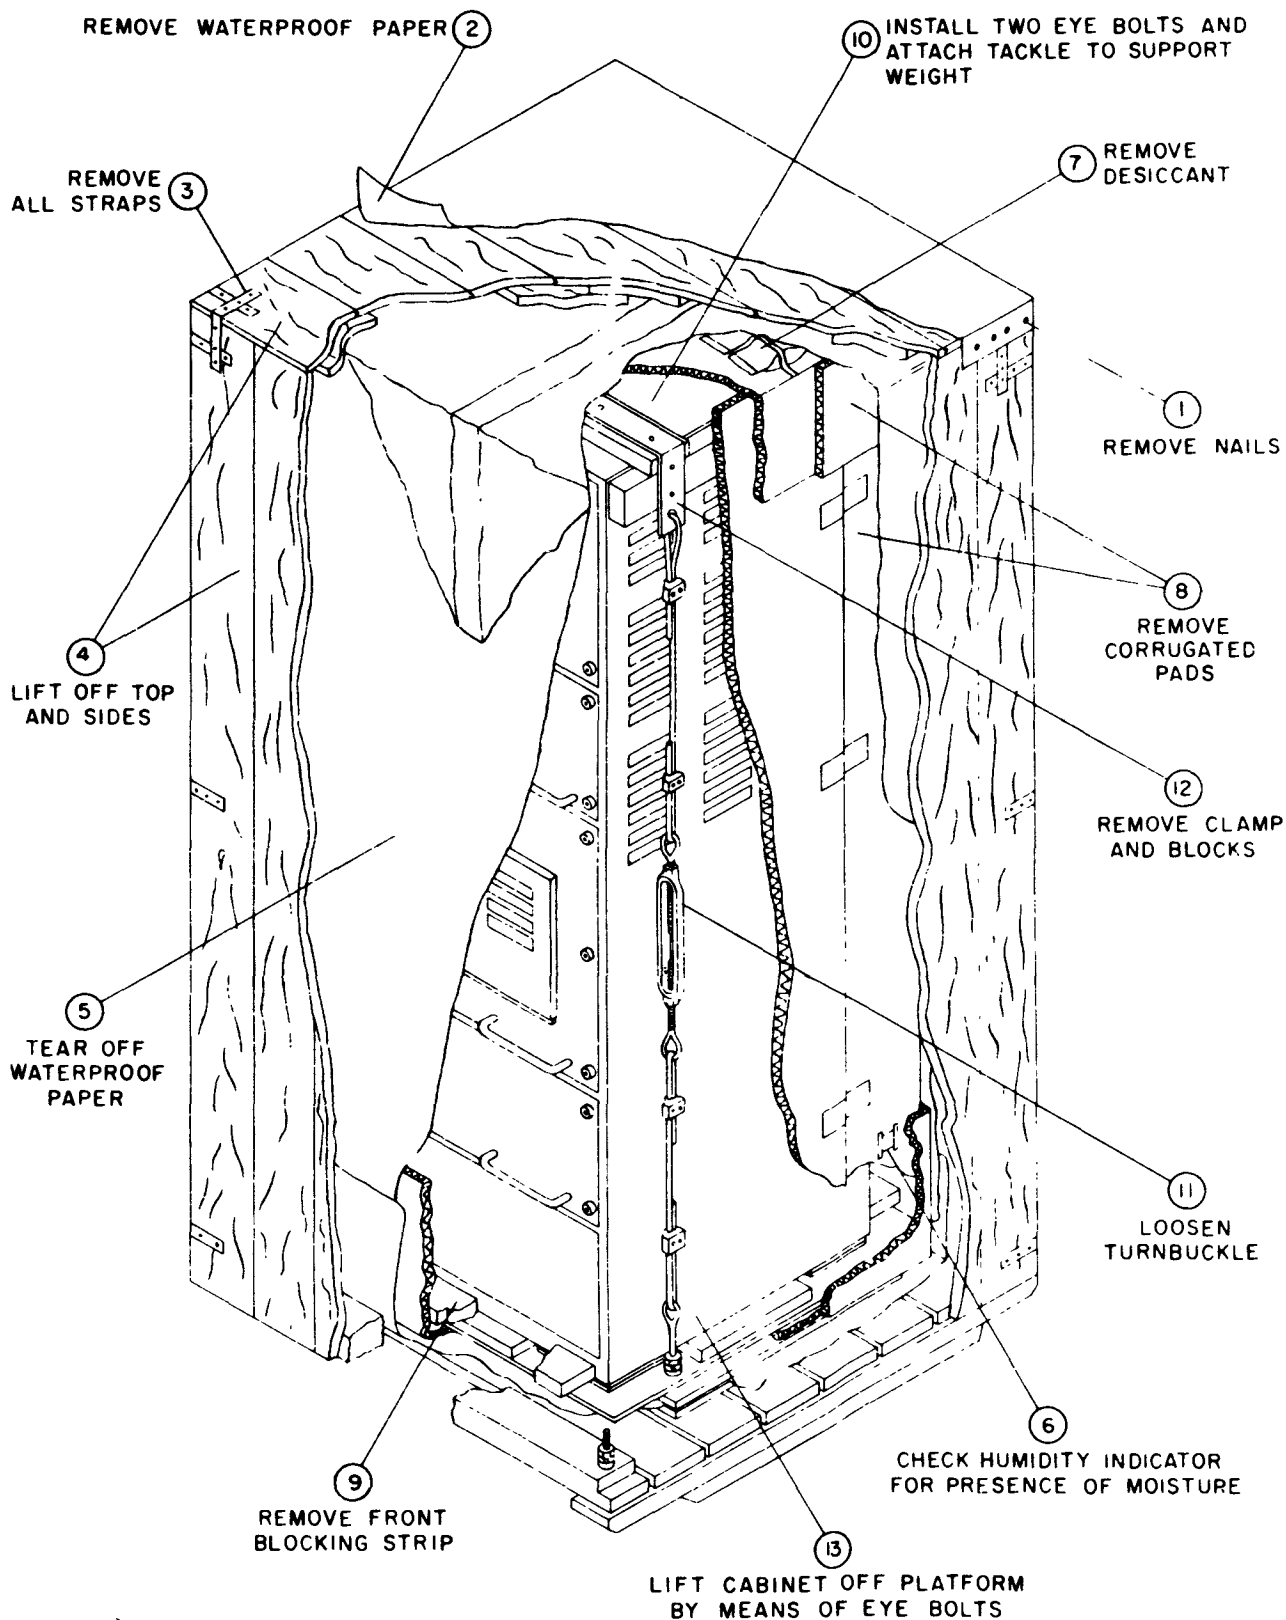

Figure 2-1. Receiver-Transmitter Group or Power Supply Assembly, Typical Unpacking Diagram
b. TYPICAL UNPACKING PROCEDURE. —A typical component unpacking diagram is shown in figure 2-1. Unpack the equipment in accordance with the procedure outlined in the following steps: